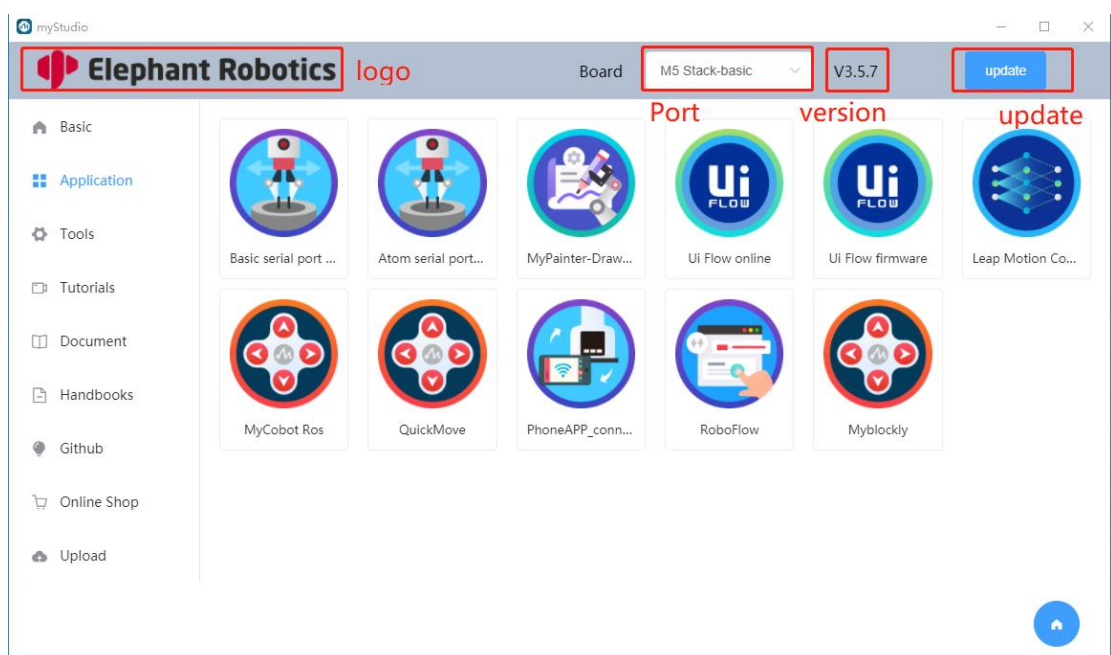
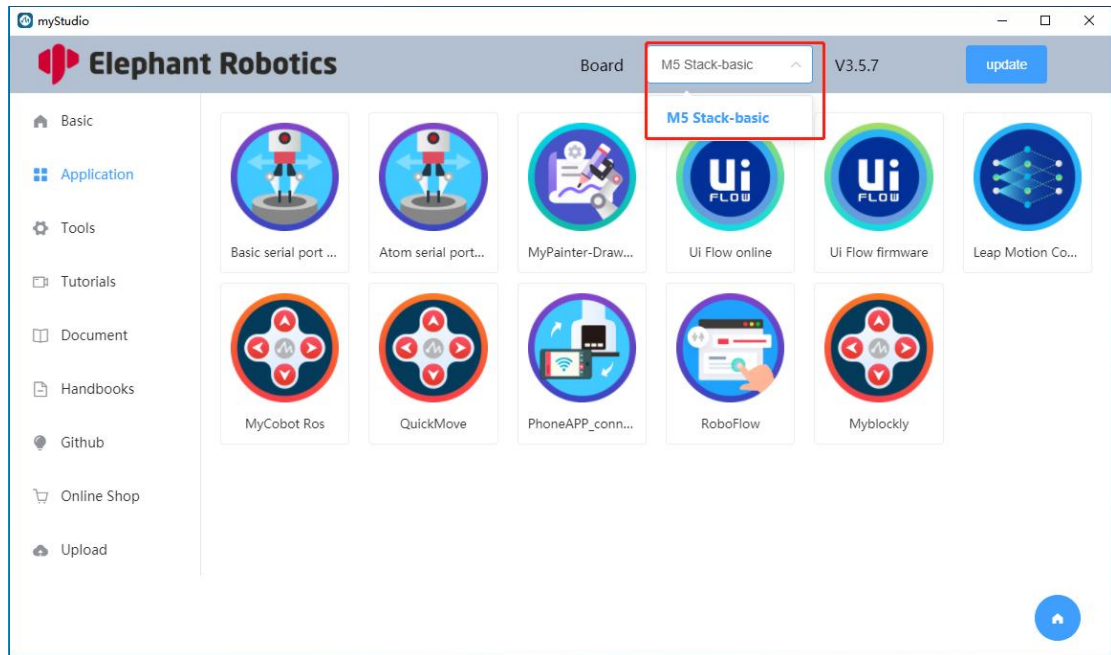

Figure 3.6 Head
Figure 3.7 Switch port
- 1) Header: As shown in Figure 3.6 , the company logo is displayed; the currently connected USB port is displayed, and the user can choose to change it, as shown in Figure 3.7; the version number of this system, the latest version is v3.5.2;